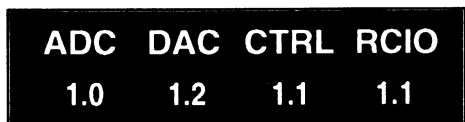

Fig. C.1-2. The Software Versions displayed.
(F) Software Version — Lists which software version is installed in the RC 211 and VS 211. The display will report all software versions installed in the remote and the selected synchronizer, by board. The display will resemble Fig. C.1-2. This function is especially convenient during updates or troubleshooting.